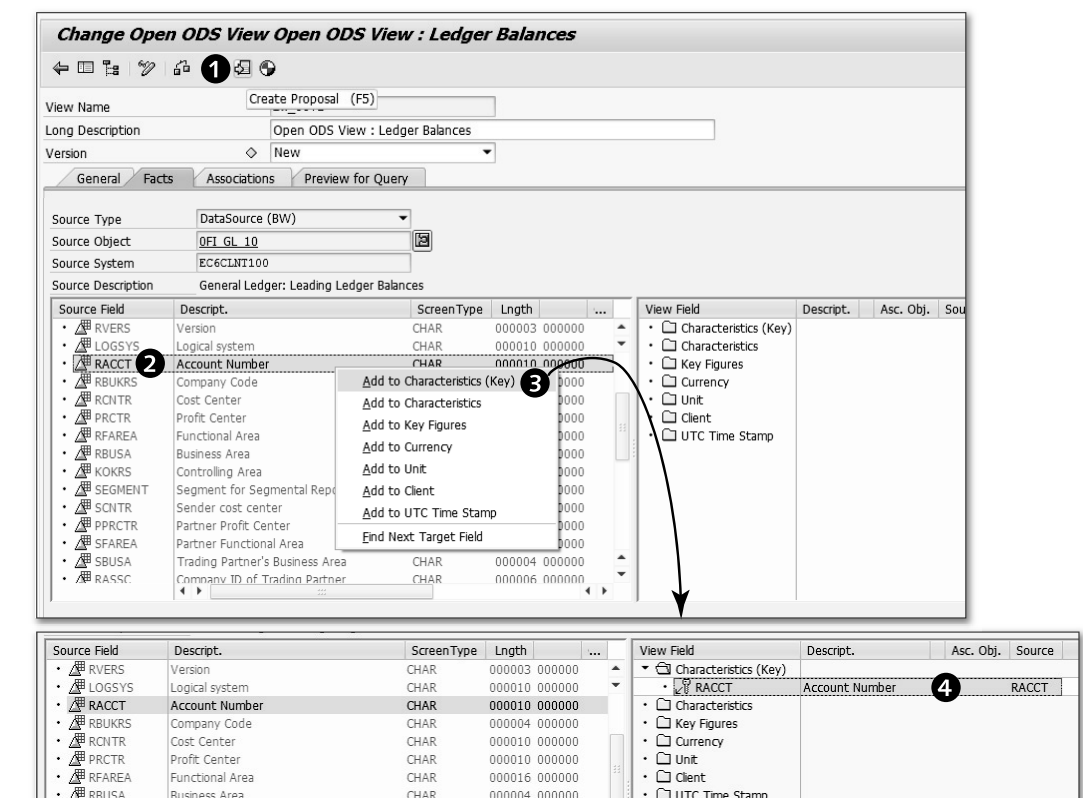

Figure 6.80 Adding to the Characteristics (Key) Section
If you plan to move all the source fields from source to view, you can use the proposal feature. By clicking on the **CREATE PROPOSAL** icon (❶ of Figure 6.80), you can move all the source fields to the **VIEW FIELD** section. All the fields are moved from source to view based on their data types. You can remove the fields that aren't required from the **VIEW FIELD** section. If you require only a few fields to be taken from the **VIEW FIELD** section, you can take them one by one, as we'll describe next.